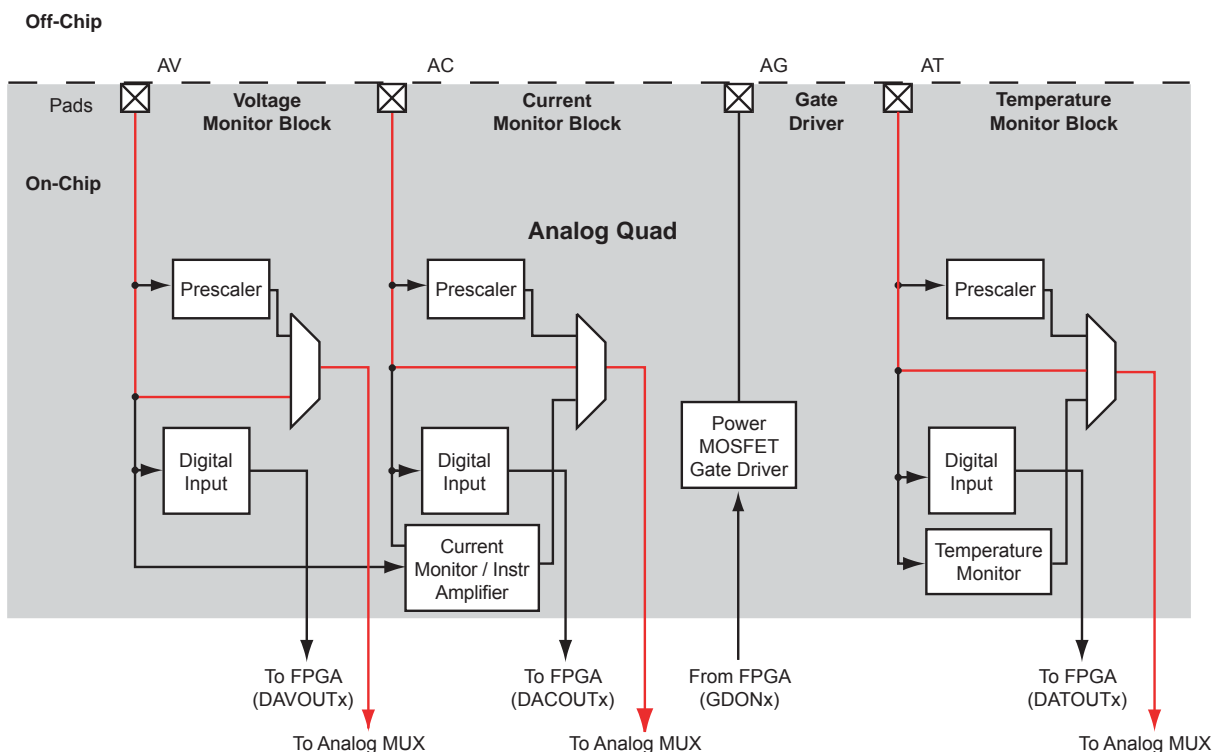

Figure 2-64 • Analog Quad Direct Connect
The Fusion Analog Quad offers a robust set of voltage-monitoring capabilities unique in the FPGA industry. The Analog Quad comprises three analog input pads— Analog Voltage (AV), Analog Current (AC), and Analog Temperature (AT)—and a single gate driver output pad, Analog Gate (AG). There are many common characteristics among the analog input pads. Each analog input can be configured to connect directly to the input MUX of the ADC. When configured in this manner (Figure 2-64), there will be no prescaling of the input signal. Care must be taken in this mode not to drive the ADC into saturation by applying an input voltage greater than the reference voltage. The internal reference voltage of the ADC is 2.56 V. Optionally, an external reference can be supplied by the user. The external reference can be a maximum of 3.3 V DC.